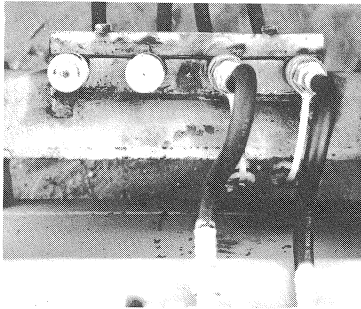

Fig. 25
- (5) Connect the hoses of the shovel with the rapid action couplings in the shovel arm (Fig. 25). Pay attention to colour marking.